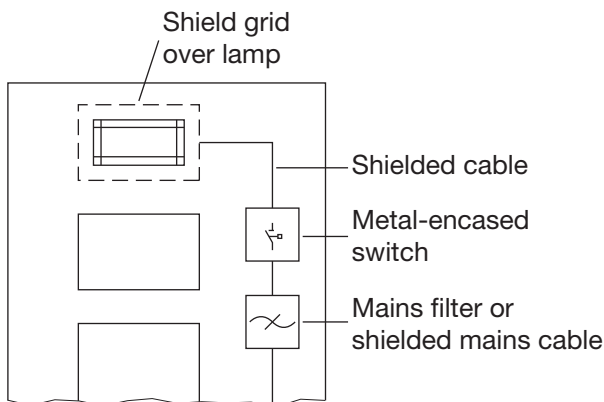

Fig. 6: Interference suppression of fluorescent lamps in cabinet
- Cabinet lighting: Use filament lamps (e.g. LINESTRA lamps) for the cabinet lighting. Do not use fluorescent lamps because they generate interference fields. If the use of fluorescent lamps cannot be avoided, the interference suppression measures shown in Fig. 6 must be implemented.